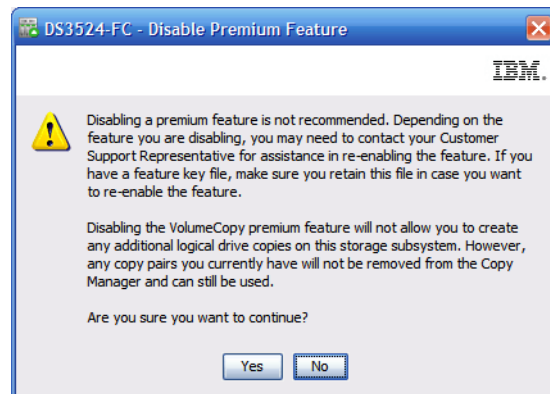

Figure 1-7 Disable Premium Feature confirmation
3. The **Disable Premium Feature** confirmation window shown in Figure 1-7 will be displayed. Read the information and then click Yes to disable the premium feature.